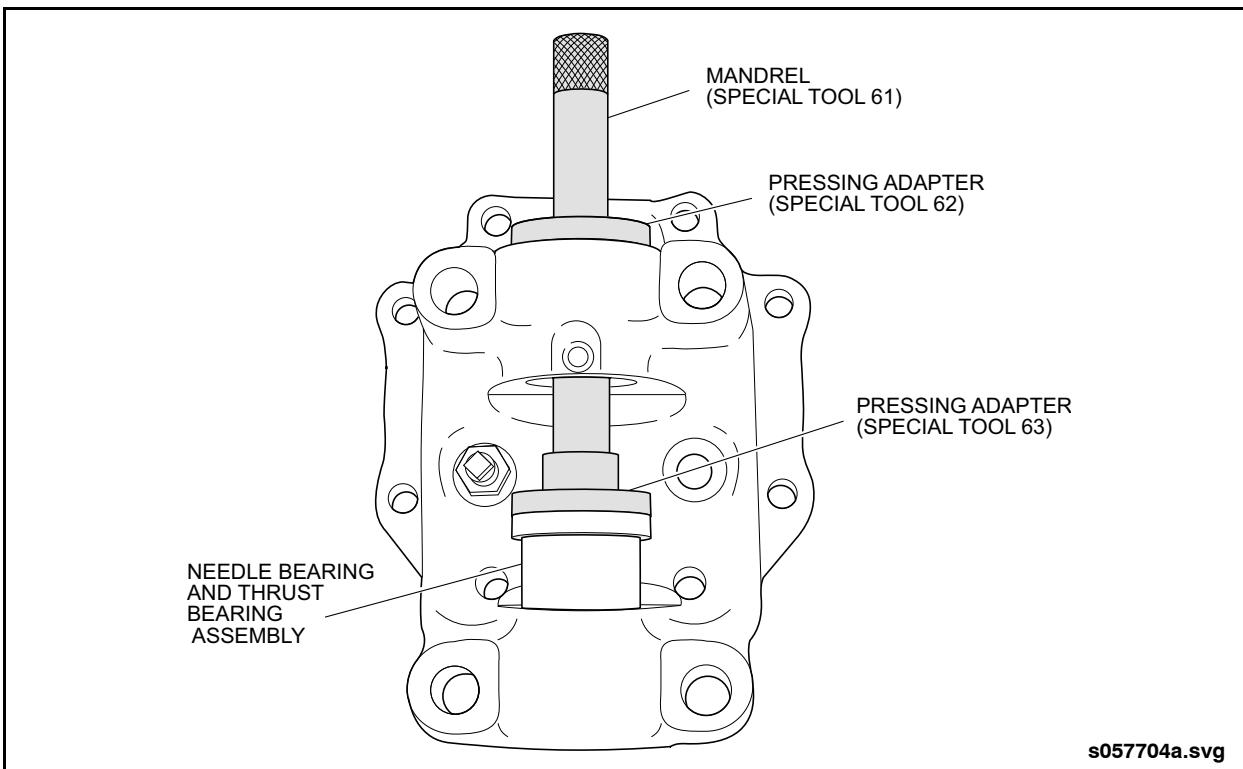

Fig. 1-33: King Pin Needle & Thrust Bearing Installation
14. Position long end of mandrel against press ram and press needle bearing and thrust bearing assembly in until shoulder on pressing adapter (Item 63 from special tools list) seats on steering knuckle. See "Fig. 1-33: King Pin Needle & Thrust Bearing Installation" on page 33.